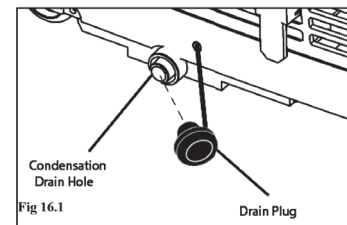

Fig 16.1
**NOTE**: Once the condensate tank has been emptied, firmly press the drain plug back onto the condensation drain hole (Fig 16.1). It is not advised to use continuous drainage when the room temperature is higher than 90°F.